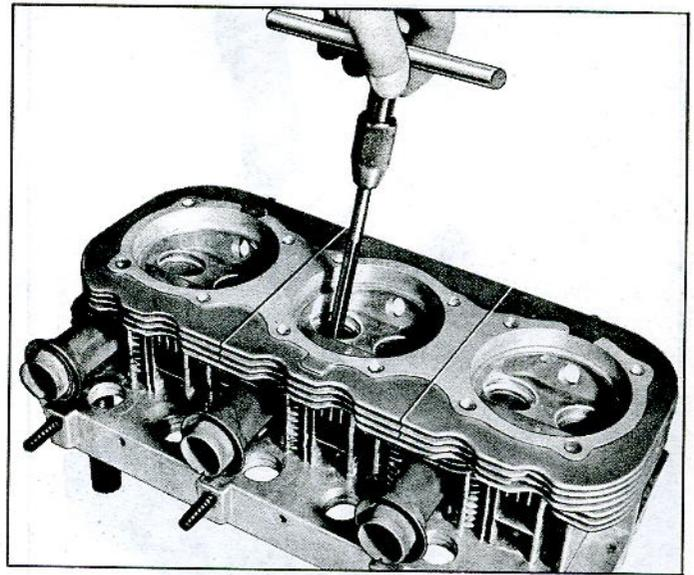

Fig. 87—Reaming Valve Guide
- Ream bore of valve guide, starting at the combustion chamber side (fig. 87) and flush with cutting oil to avoid scoring. Do not force or withdraw reamer during reaming operation. Reamer should pass completely through bore and be removed at the valve spring side of the cylinder head. Wipe refinished bore to remove cutting oil and chips; inspect bore.